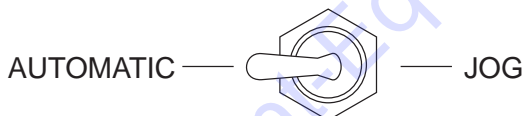

**Figure 19. Emergency Stop Switch**
1. Locate the Emergency Stop Switch (Figure 19) on the Hydraulic Pump Control Box. Turn the Emergency Stop switch clockwise and release (open). This will allow the engine to start.